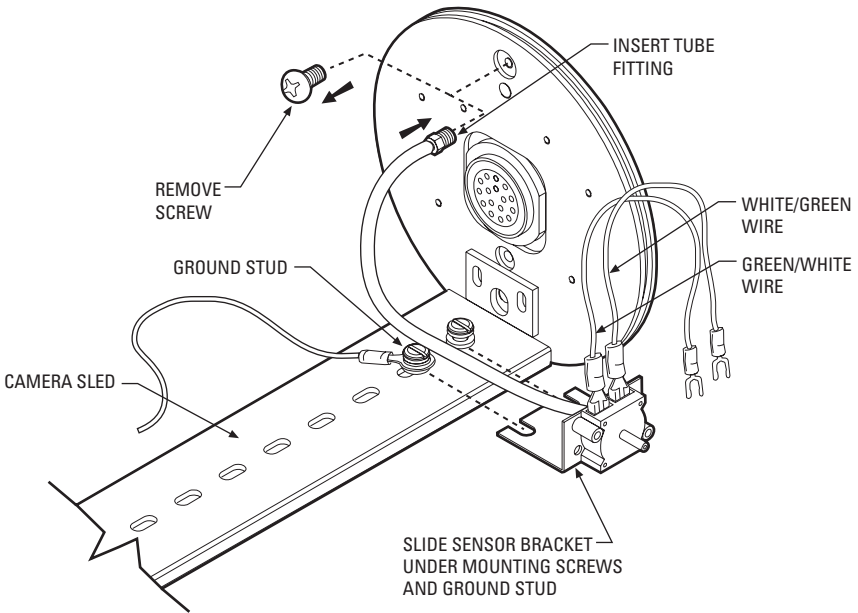
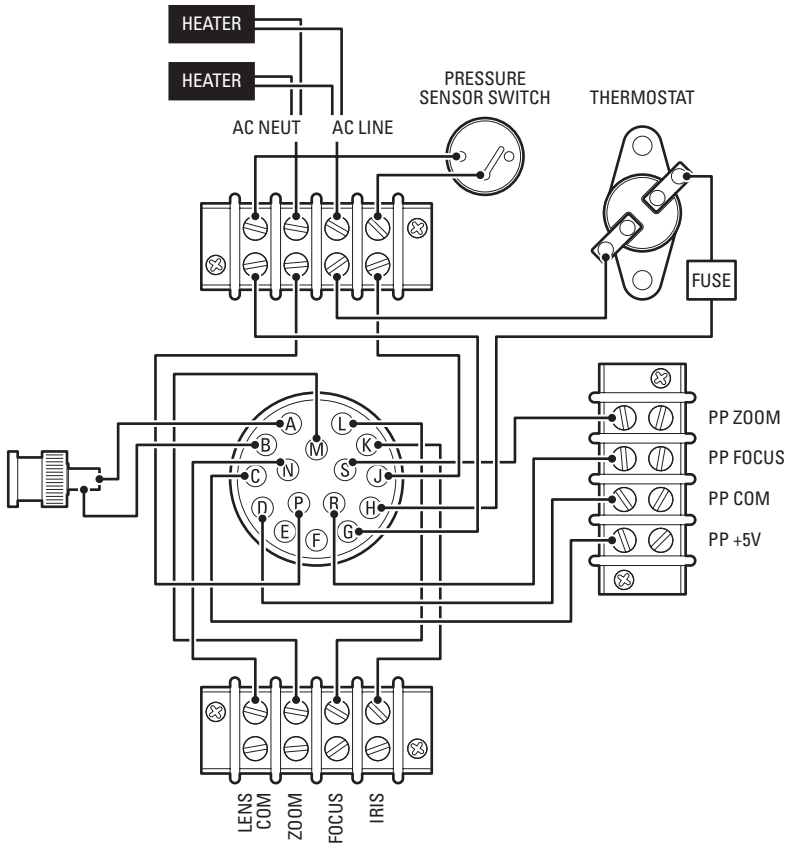

Figure 2. EH8100 Series Enclosure: Rear Plate, Inside View
Figure 3. EH8100 Series Enclosure: Wiring Diagram
1. Remove the screw located inside the top portion of the enclosure's rear plate (refer to Figure 2). Insert the pressure sensor tube fitting into the hole.
2. Loosen the camera sled mounting screws (refer to Figure 2). Slide the sensor bracket under the mounting screws and ground lug. Tighten the screws.
3. Connect the wire leads (refer to Figure 2 and Figure 3 on page 7):